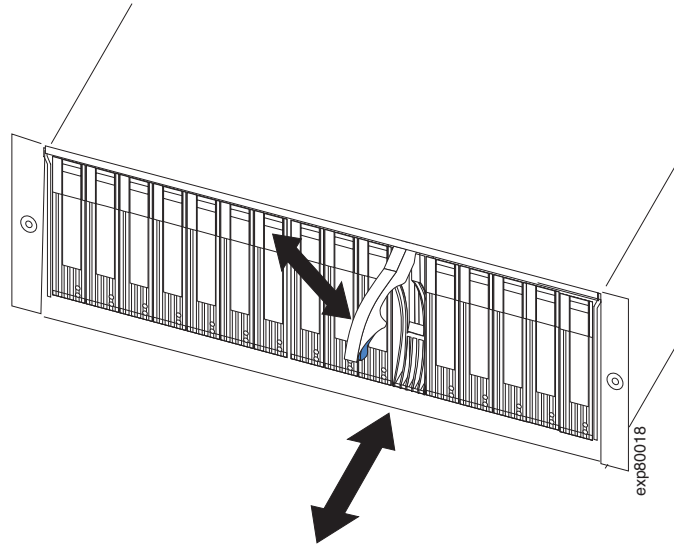

Figure 30. Replacing an E-DDM
1. Lift up on the handle and gently push the E-DDM CRU into the empty bay until the hinge of the tray handle latches beneath the storage subsystem bezel, as shown in Figure 30.